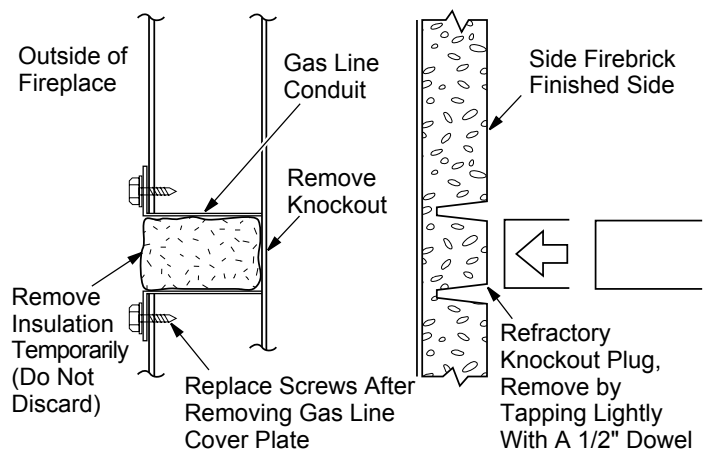

Figure 13 - Removing Knockout for Gas Line Installation
1. To install, remove the knockout indentation on the refractor (or firebrick) wall located approximately 2 inches above the refractory hearth floor. The knockout indentation must be firmly tapped with any solid object until it is released. Remove fragmented portion of refractory (see Figure 13).